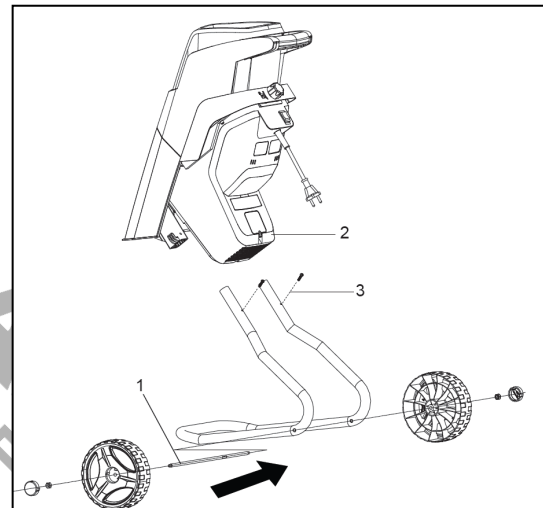

Fig. 1
1. Insert the wheel axle (Fig. 1 - 1) through the bottom holes of the stand.
1. Insert the two ends of the stand assembly into the bottom of the shredder housing (Fig. 1 - 2).
2. Align the holes and secure the two screws on both sides of the stand (Fig. 1 - 3).